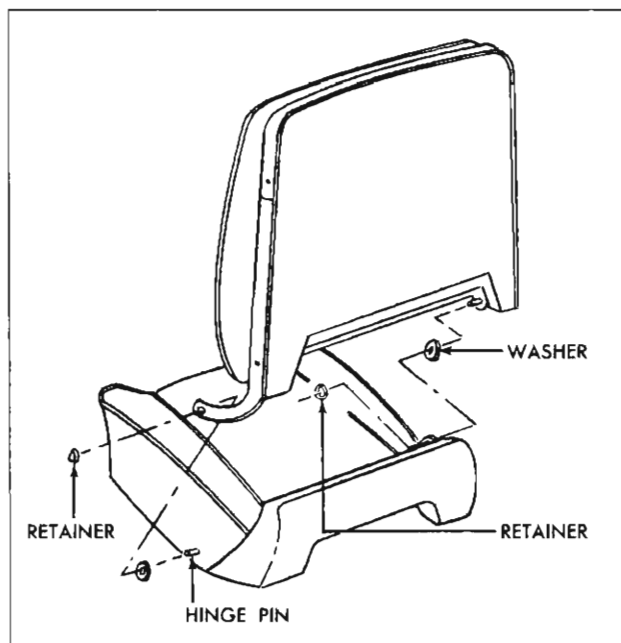

Fig. 110—Bucket Seat Removal
1. On all styles, using a flat-bladed tool, carefully remove retainer from outer hinge pin (fig. 110).
2. On all styles, tilt seat back forward and remove retainer from inner hinge pin (fig. 110).
5. To install, reverse removal procedure. Prior to installation of back assembly, be sure inner and outer washers are installed over the hinge pins. (fig. 110).